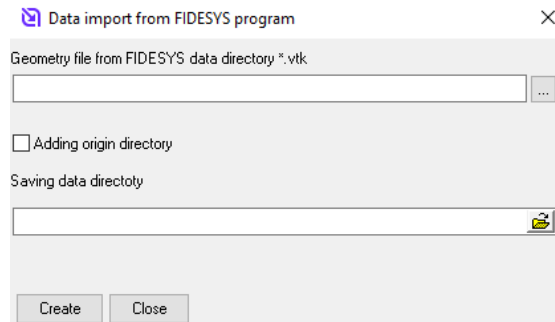

Figure 2.31
**It's important!** Files **res.cbm**, **M\_CCS.hb**, **K\_CCS.hb** must be located in the same directory as the **geometry.vtk** file. Assignment of all fields of the **FIDESYS\_UM.EXE** program window is clear by their names (Figure 2.31).